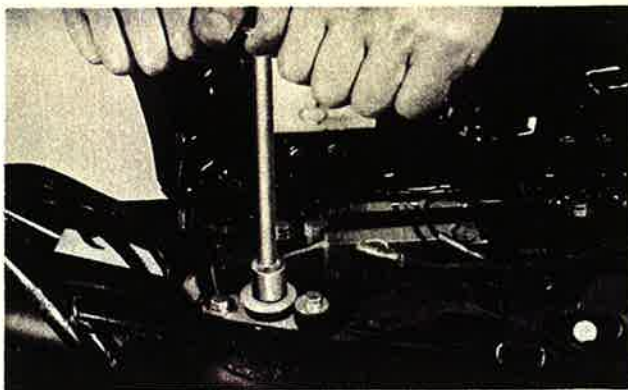

Fig. 3-1-4
2. Remove the bolt holding the exhaust pipe to the frame. (Fig. 3-1-4)